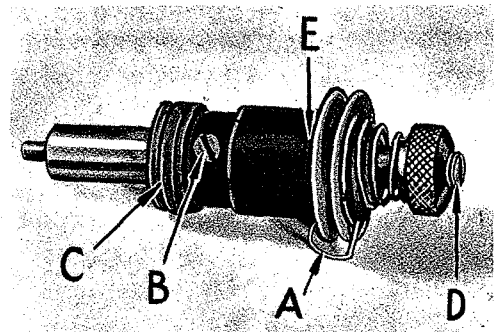
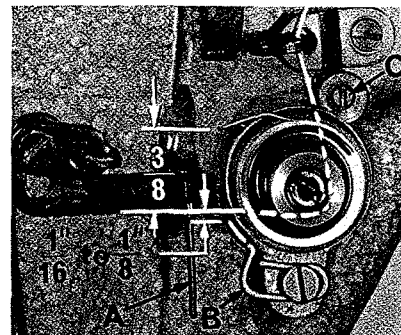
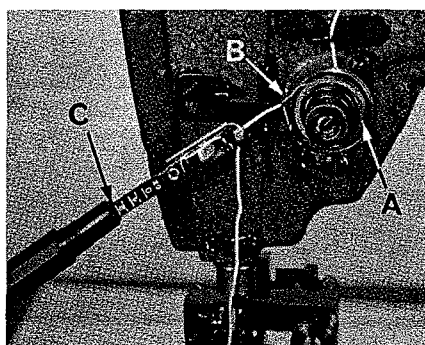

Fig. 18
Fig. 19
Fig. 20
Test check spring tension (A, Fig. 18). There should be enough tension to assure a good returning snap when the spring is depressed and released. Should it require adjusting, loosen set screw in head located under arm and to the right of tension assembly and remove tension assembly. Partially loosen tension post set screw (B) in tension post socket (C). Turn tension post (D) counterclockwise until check spring moves away from upper stop (E) and has no tension on it. Turn tension post (D) in a clockwise direction until spring again touches upper stop (E). Proceed further in same direction until desired tension is obtained. When correctly set tension post set screw (B) should be drawn up snugly, yet not forcefully. Further adjustment of check spring tension can be made by inserting a screwdriver into slotted end of tension post (D) and turning in required direction.
Replace tension assembly with check spring about $3/8$ inch above thread take-up bracket (A, Fig. 19). Replace tension post assembly while presser foot is resting on throat plate.
The in and out position of the tension assembly is correct when the tension discs are in line with the check spring eyelet (B, Fig. 19). Set the stop screw (C, Fig. 19) so that when the flange of the tension assembly rests against it, this position is maintained. Tighten the tension assembly set screw.
Check the adjustment of tension assembly (A, Fig. 20). Check spring tension. There should be enough tension to insure a good returning snap when spring (B, Fig. 20) is depressed and released. The check spring tension is adjusted from about 1 to 1 1/4 ounces when measured with a postal scale, No. 21227 CW, (C, Fig. 20). This is measured when the check spring is 1/32 to 1/16 inch from the stop. The tension post set screw should be drawn up snugly but not forcefully tightened (B, Fig. 18). The tension release pin should move freely in the tension post (D, Fig. 18). The check spring eyelet (B, Fig. 19), located just below the tension discs, should be set for correct height as follows:
With a thread running from the tension post to the thread take-up bracket (A, Fig. 19) in a straight line, the check spring eyelet should be set 1/16 to 1/8 inch below the thread line (Fig. 19). Be sure the eyelet is set close to the tension discs so that the check spring will pass freely over it without obstruction. After making this setting, proceed to thread machine as per threading diagram (Fig. 3).